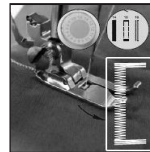

Fig.17
- (4) Choose the 15th stitch, then turn on switch and sew 5-6 stitches in low speed, then turn off switch (Fig.17).